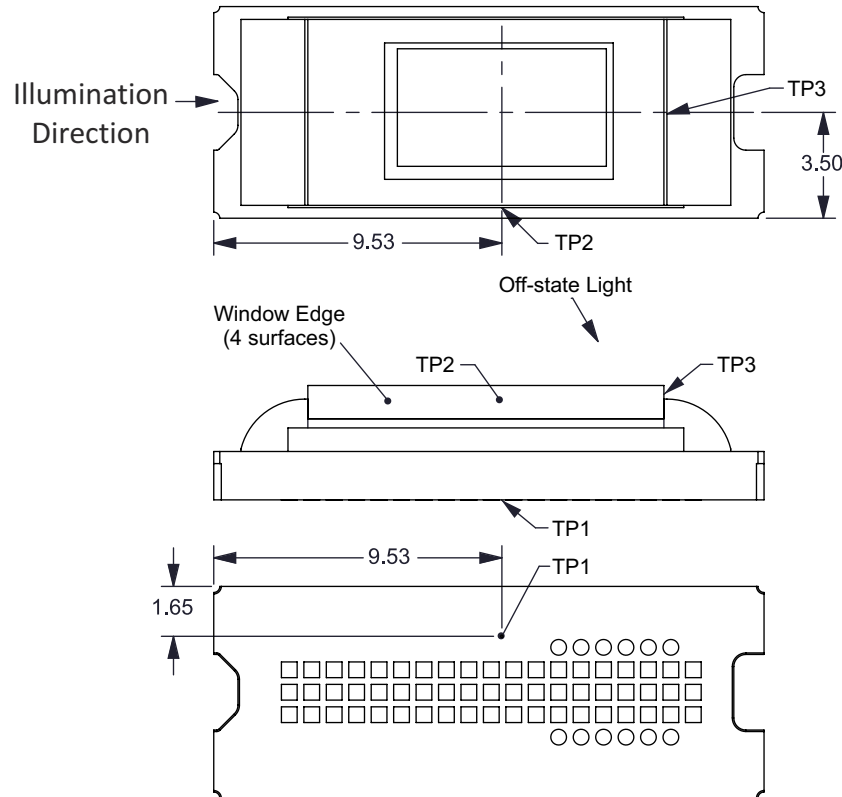

Figure 7-1. DMD Thermal Test Points
- T_{CERAMIC} = Measured ceramic temperature (°C), TP1 location in Figure 7-1
- Q_{ARRAY} = Total DMD power; electrical plus absorbed (calculated) (W)
- $Q_{\text{ELECTRICAL}}$ = Nominal DMD electrical power dissipation (W)